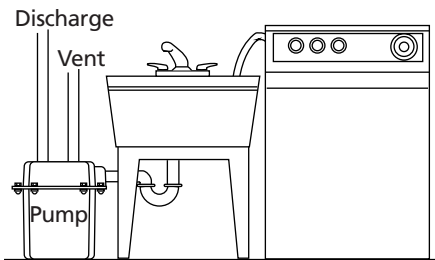

**Figure 7 – Typical installation to remove air conditioner condensate or dehumidifier water**
1. Install inlet pipe in opening as shown. Use RTV sealants or Plasto-Joint Stik\* to seal threads. See Figures 7, 8, and 9, page 4 and 5, for typical installation arrangements.